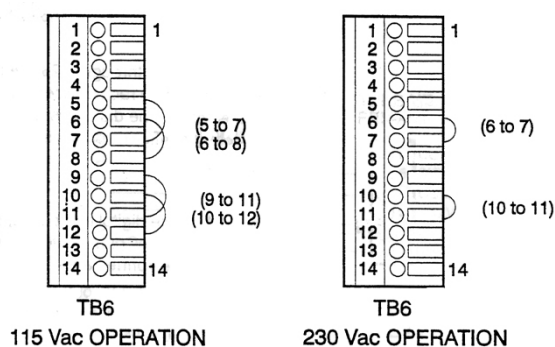
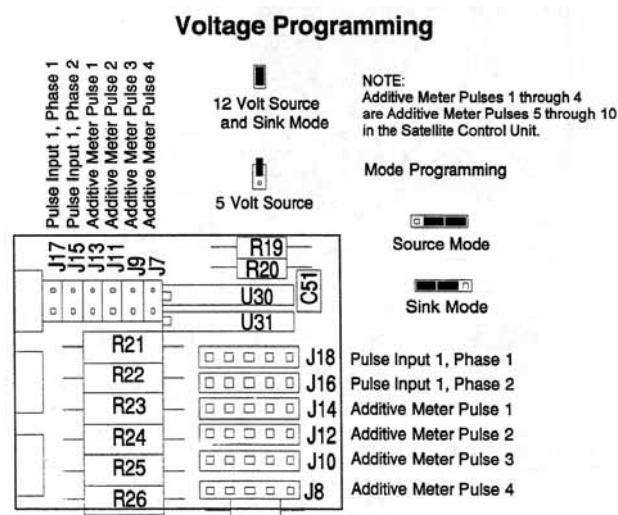
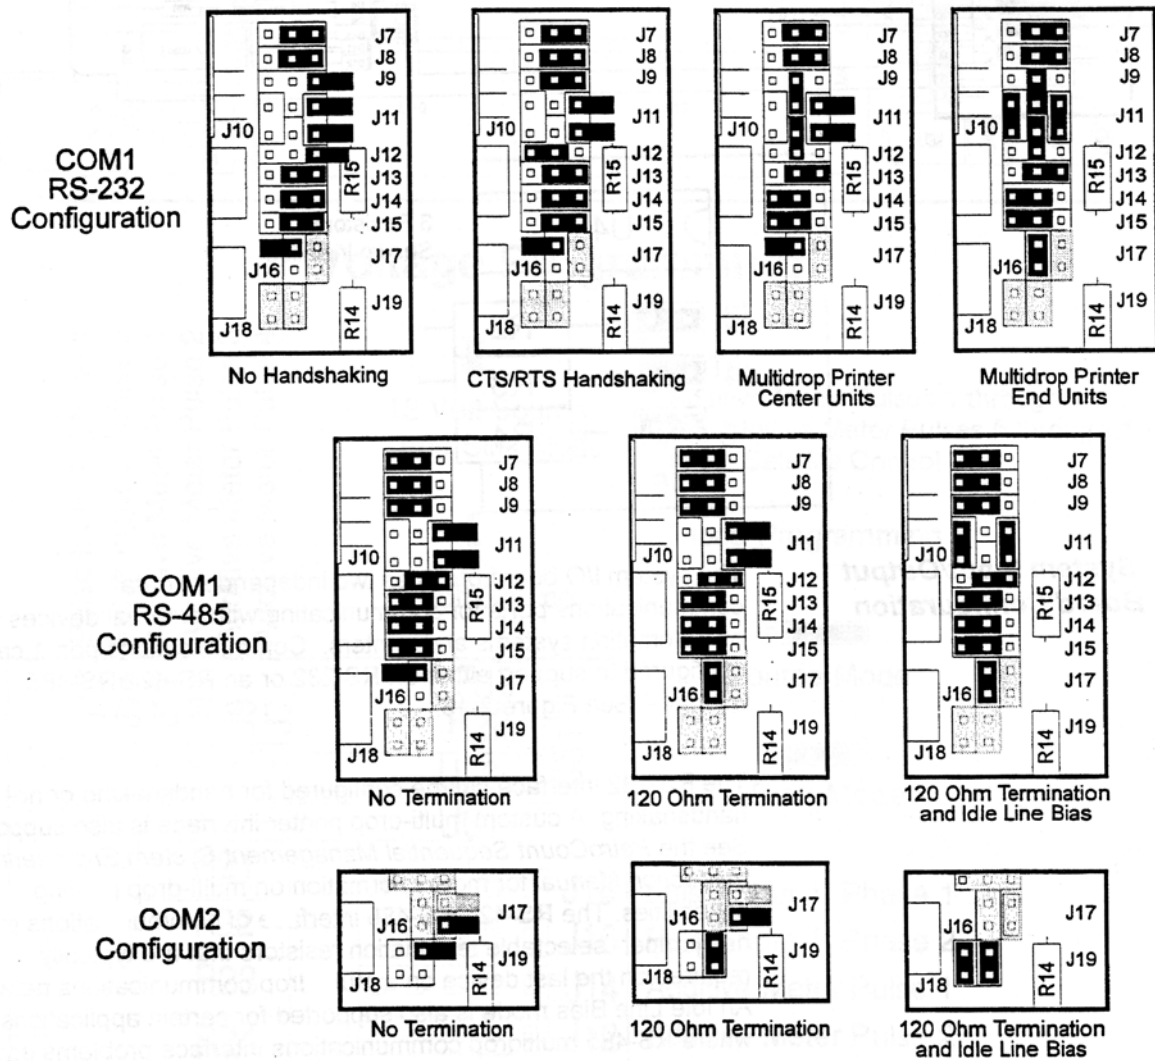

Figure 3. Power Selection Bit Links
Figure 4. Pulse Input Bit Links
Figure 7. Communication Bit Links
3. Configure the electrical circuits and software database. The electrical circuit options are selected by bit links (jumpers) on the Pulse Processor and System I/O boards. Refer to Figure 3, Figure 4, and Figure 7. For information on the functions of each bit link, refer to the *Model PetroCount SMS Sequential Management System Instruction Manual (X-0511-SMS)* and the *PetroCount Ratio Management System Instruction Manual (X-0511 RMS-2)*.
❖ **NOTE:** You must select the operating voltage of the PetroCount unit (115 or 230 volts ac). You make this voltage selection by installing wire bit links (jumpers) on Terminal Block TB6. The jumper placement is illustrated in Figure 3. A plastic packet with four wire jumpers has been placed inside the unit.